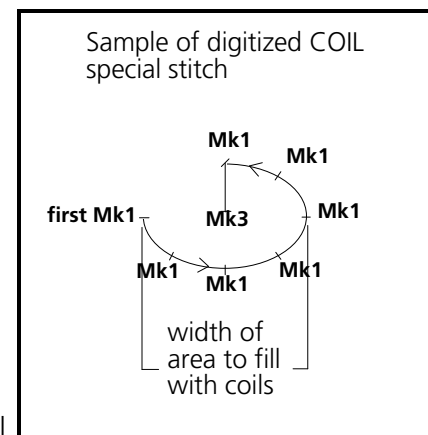

Figure 4-4
- Make the coil special stitch the size that is required to fill the inner body area (see Figure 4-4).